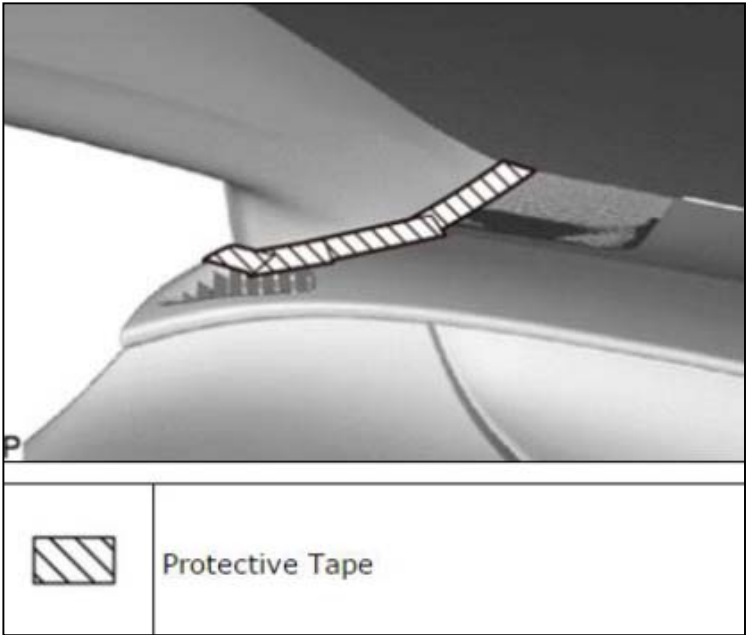

Figure 11
- a. Apply protective tape around the front pillar garnish LH as shown in Figure 11.
These clips CAN NOT be reused. DESTROY and DISPOSE of clips. See Figure 11 NOTE: Install a new A-Pillar garnish upper clip when replacing garnish at end of installation. A-Pillar clip 62217-78010 is not provided in the kit. This item must be ordered separately.